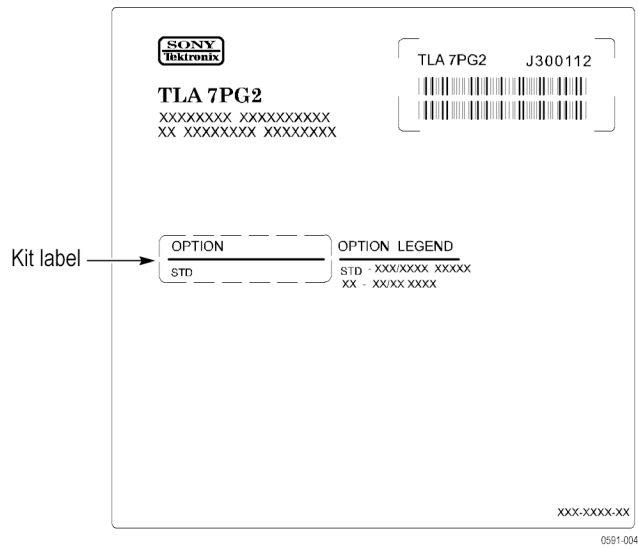

Figure 6: TLA7PG2 Pattern Generator module label
4. Locate the label on the side of the instrument; it looks similar to the label shown. (See Figure 6 on page 8.)
6. Locate the PowerFlex option label from the label sheet that you received with this kit. Peel the label from the sheet and affix it to the Kit label location on the big label. (See Figure 6.)